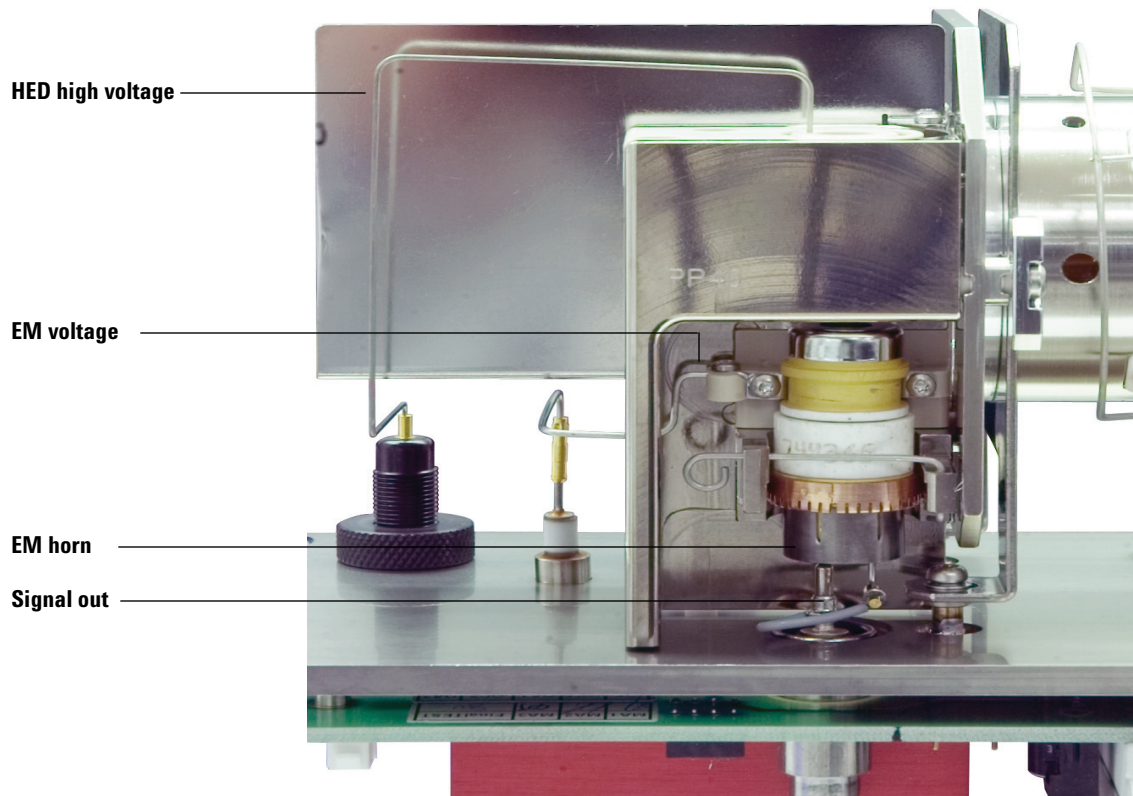

Figure 42 The detector
The detector (Figure 42) in the MSD analyzer is a high energy conversion dynode (HED) coupled to an electron multiplier (EM). The detector is located at the exit end of the quadrupole mass filter. It receives the ions that have passed through the mass filter. The detector generates an electronic signal proportional to the number of ions striking it. The detector has three main components: the detector ion focus, the HED and the EM horn.